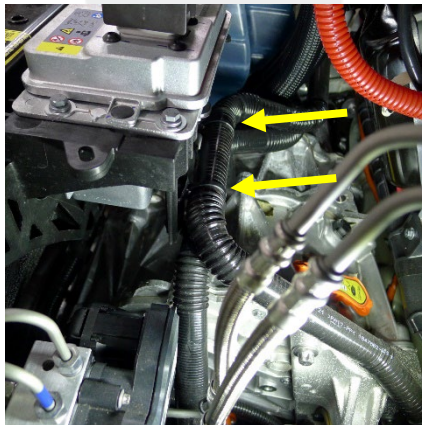

Figure 2
5. Release the clips (x2) that attach the coolant hose to the LV battery (Figure 2).